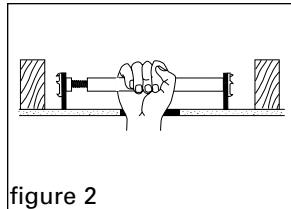

figure 2
2. With both Saf-T-Brace® feet resting on the sheetrock, **by hand only** rotate the square tube until "teeth" are firmly locked into the joist; a $\frac{7}{8}$ " wrench may be required for the final turn to bring bar around to the flat side. **Do not install using wrench.** A flat side of tubing must be parallel to the sheetrock so that the box bracket will hang correctly (figure 2).